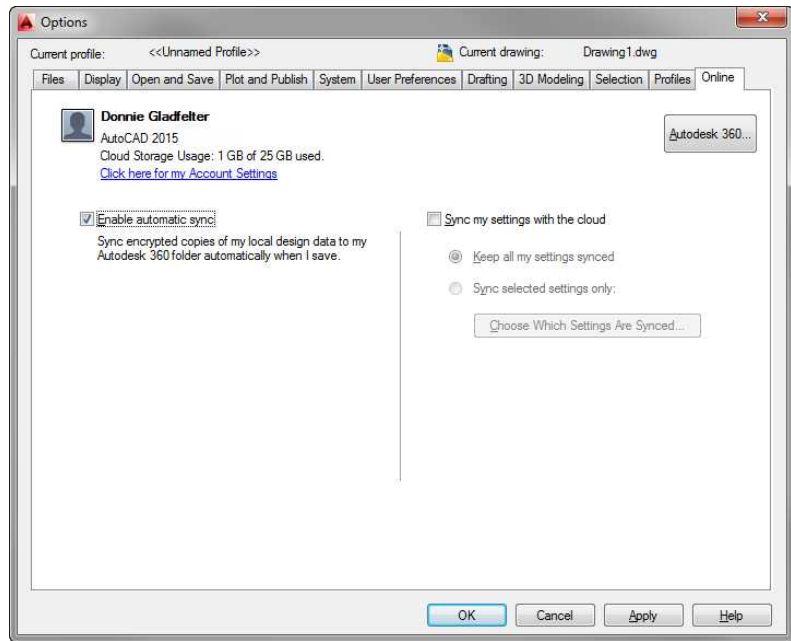

FIGURE 3.22: Enabling automatic syncing with Autodesk 360 cloud storage
4. If you would like to keep an encrypted copy of the drawings you create on Autodesk 360, verify that the Enable Automatic Sync option shown in Figure 3.22 is checked.